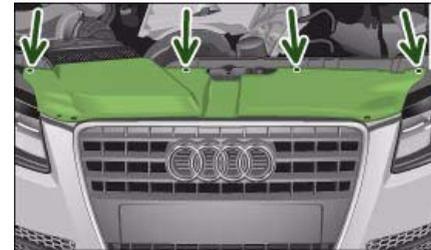

Fig. 288 Trim panel: Attachment points are marked by arrows
- Remove the screws ⇒ *page 306*, fig. 288 that secure the trim panel to the lock carrier and detach the trim panel.